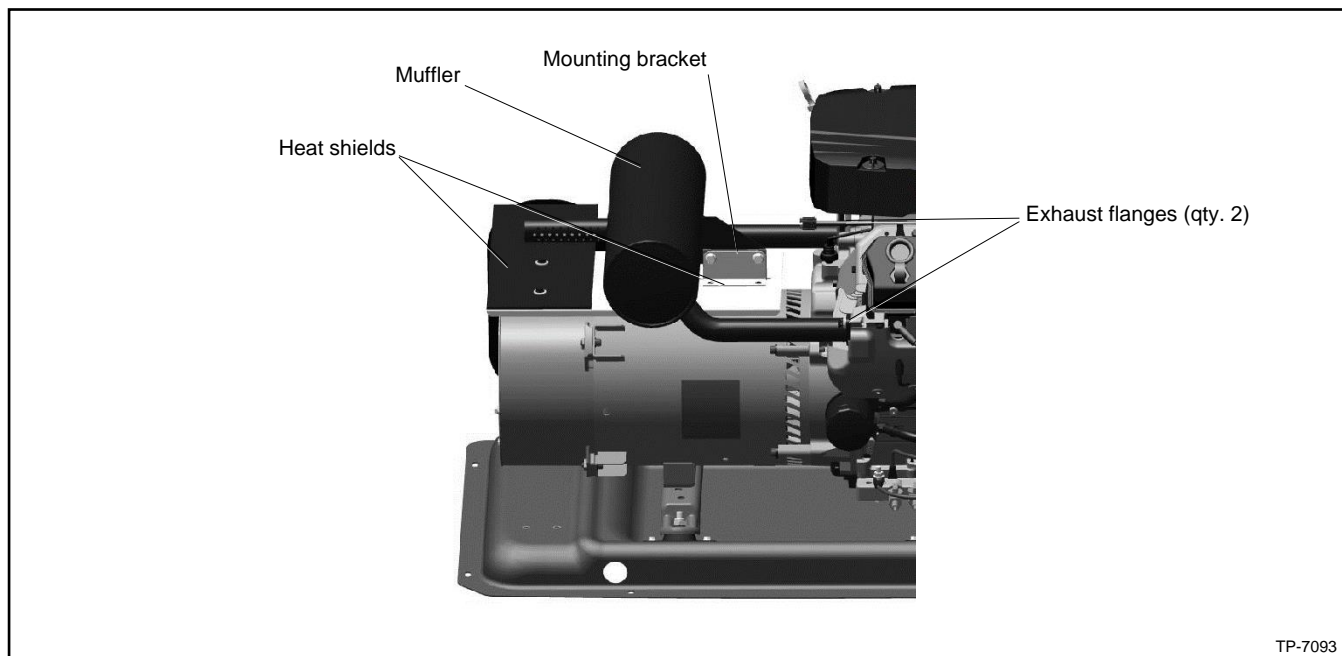

Figure 142 Muffler and Heat Shields
10. Install the exhaust system. See Figure 142.